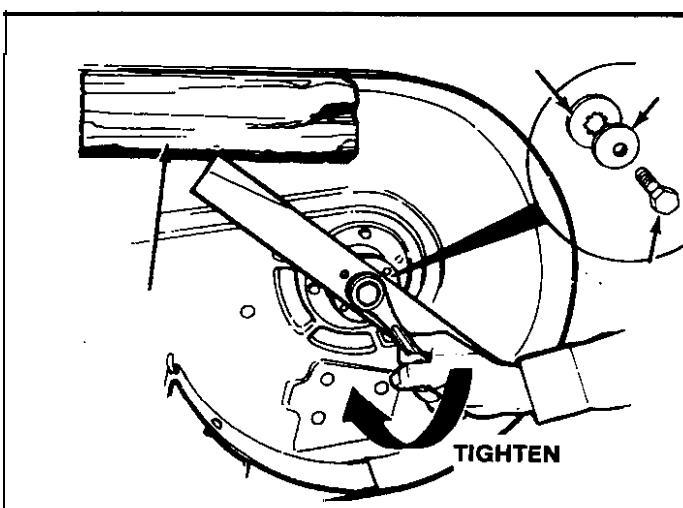

Figure 16. Installing The Blade
6. Reinstall each blade with the tabs pointing up toward deck as shown in figure 16. Secure with a capscrew, spring washer and hex washer. Use a wooden block to prevent blade rotation and torque capscrews to 50 - 70 ft. lbs. (67-95 N.m.).